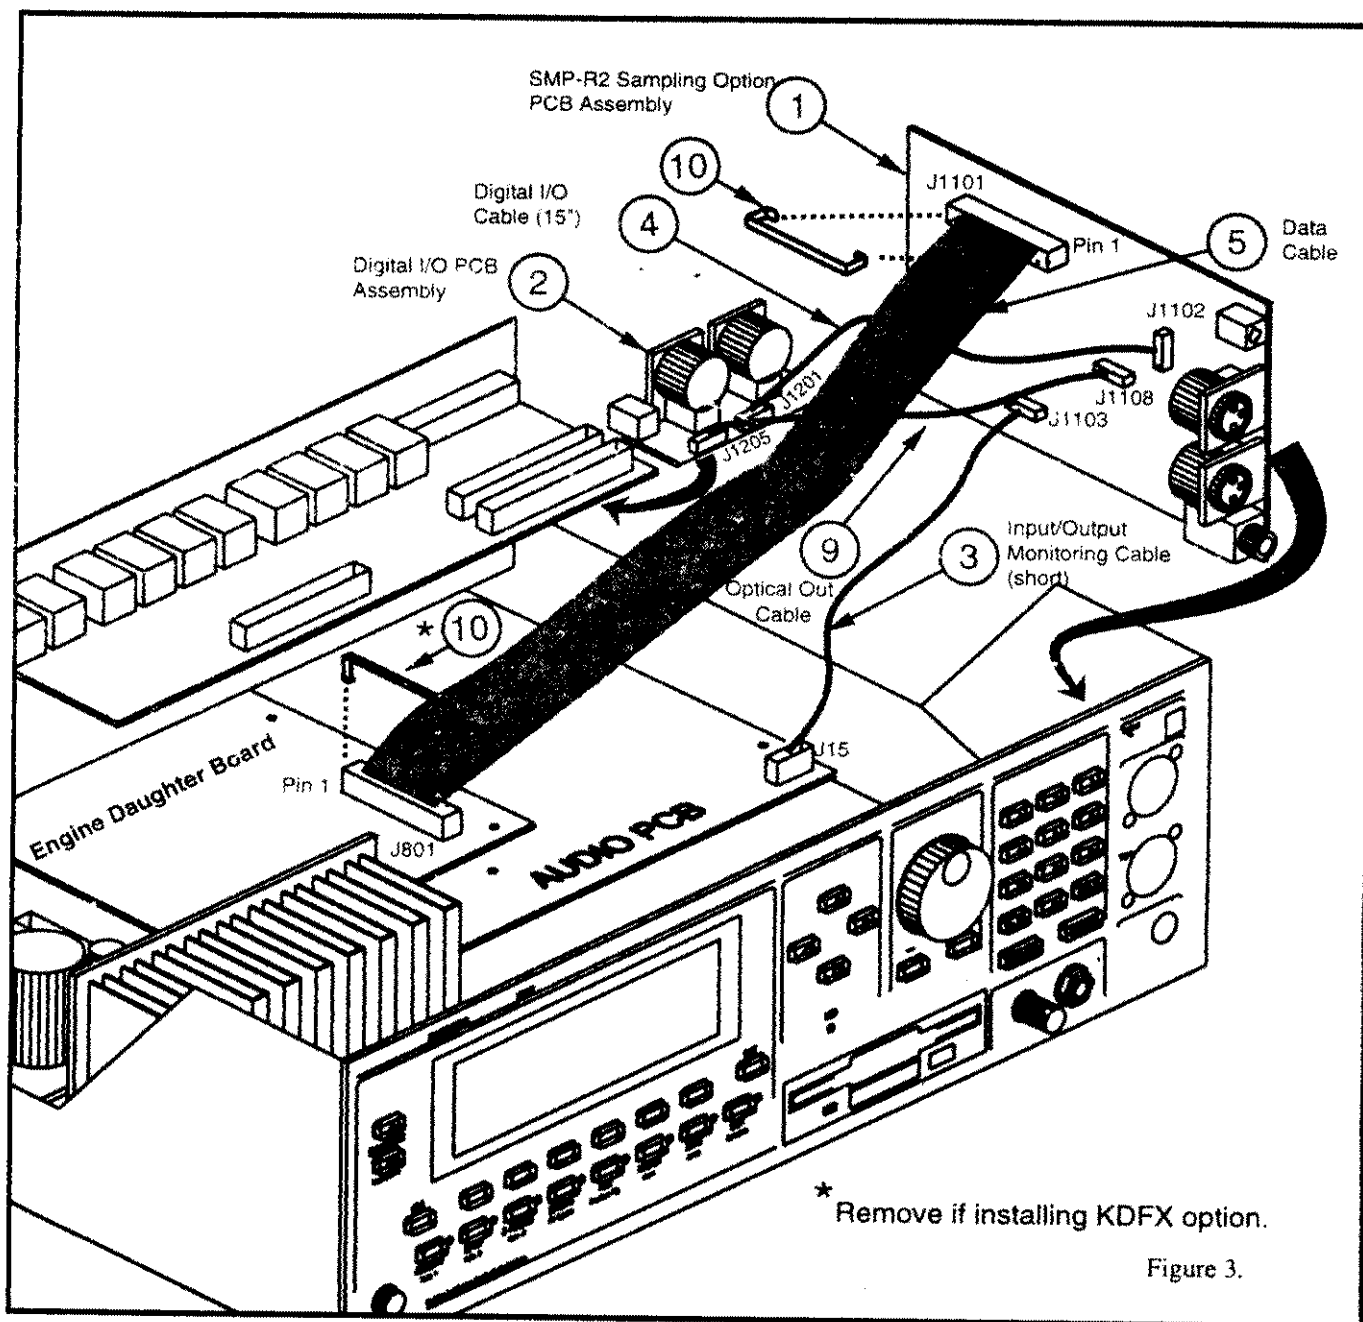

Figure 3.
3. See Figure 3. Plug one end of Item 4, the Digital I/O PCB Cable, into connector J1201 on Item 2, the Digital I/O PCB Assembly. The connectors on the cable are keyed so that they will only connect to the board one way; however, it does not matter which end of the cable you plug into the Digital I/O PCB Assembly.
4. See Figure 3. Plug one end of Item 9, the Optical Out Cable, into connector J1205 on Item 2, the I/O PCB Assembly. The connectors on the cable are keyed so that they will only connect to the board one way; however, it does not matter which end of the cable you plug into the Digital I/O PCB Assembly.
5. See Figure 3. Take Item 2, the Digital I/O PCB Assembly, remove and set aside the optical connector cap, then position the connectors in the holes in the rear panel of the K2500. Using the M3.0 x 10.0mm black pan head screws, Item 7, secure the Digital I/O PCB to the rear panel. Replace the optical connector cap after attaching the board.
7. See Figure 3. Take Item 3, The Input/Output Monitoring Cable, and plug one end into connector J1103 on the SMP-R2 Sampling Option PCB Assembly near the back of the board down close to the Audio PCB. Then plug the other end into connector J15 on the Audio PCB, located in the front right-hand side of the Audio PCB.
10. See Figure 3. Take Item 1, The SMP-R2 Sampling Option PCB Assembly, and position the connectors through the front panel. Using the four M3.0 x 10.0mm black flat head screws, Item 6, secure the SMP-R2 Sampling Option PCB Assembly to the front panel. Be careful not to flex the board, as this could loosen its surface-mounted components.
12. See Figure 3. Take Item 5, the Data Ribbon Cable, and plug it into connector J1101 on the SMP-R2 Sampling Option PCB Assembly near the back of the board toward the top. Plug the other end into connector J801 on the Engine PCB, located near the front right-hand side of the Engine Daughter Board.